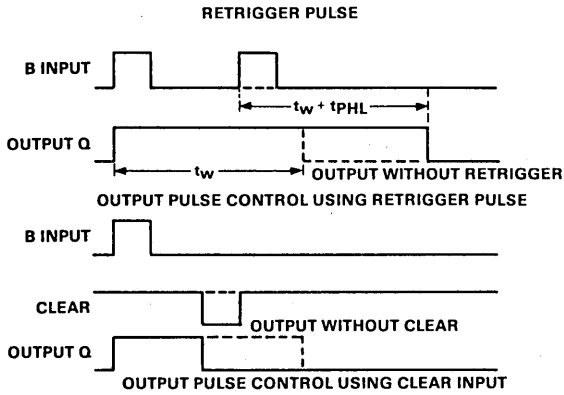

FIGURE 1 — TYPICAL INPUT/OUTPUT PULSES
These d-c triggered multivibrators feature output pulse duration control by three methods. The basic pulse duration is programmed by selection of external resistance and capacitance values. Once triggered, the basic pulse duration may be extended by retriggering the gated low-level-active (A) or high-level-active (B) inputs, or be reduced by use of the overriding clear. Figure 1 illustrates pulse control by retriggering and early clear.